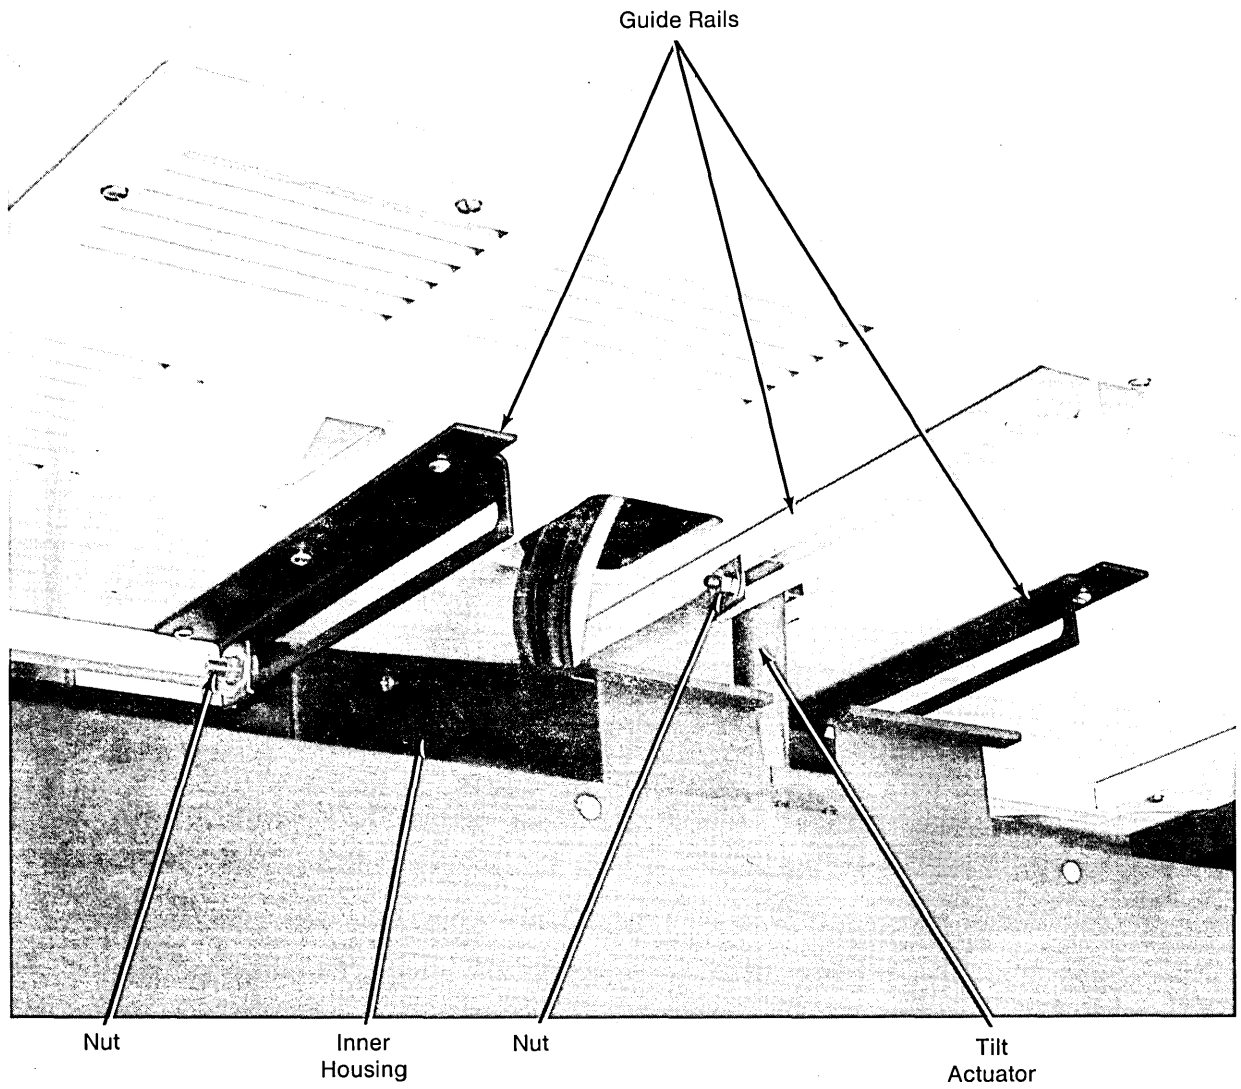

Figure 3-4. Guide Rails
7. Loosen three nuts holding inner housing and tilt actuator to three guide rails (figure 3-4) on display assembly underside.